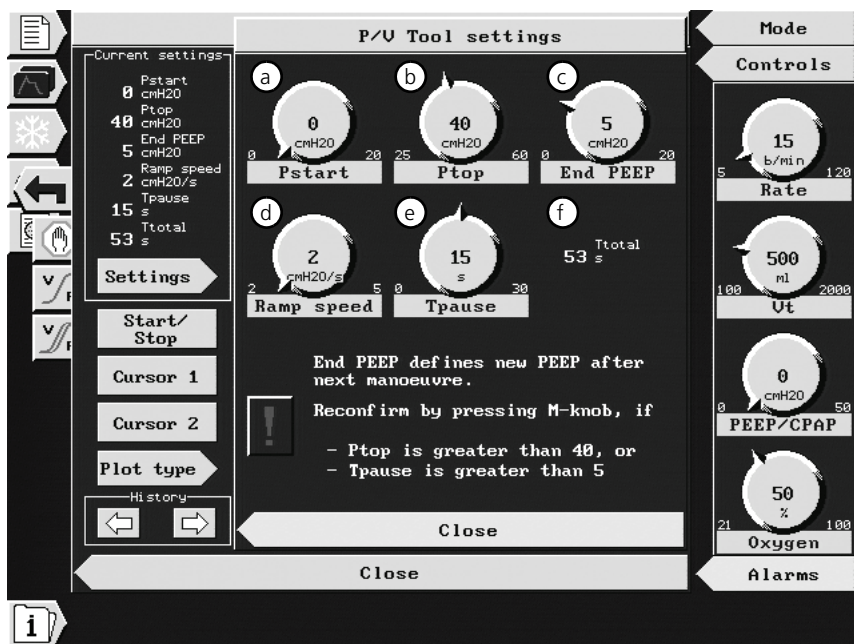

Figure 7-7. P/V Tool 2 settings window
b	Current settings box. Shows the currently active P/V Tool 2 control settings. You can change these settings through the Settings arrow, which opens the P/V Tool 2 settings window (Figure 7-7).
1. From the **P/V Tool 2** window, select the **Settings** arrow, then activate it. The **P/V Tool 2 settings** window opens (Figure 7-7).